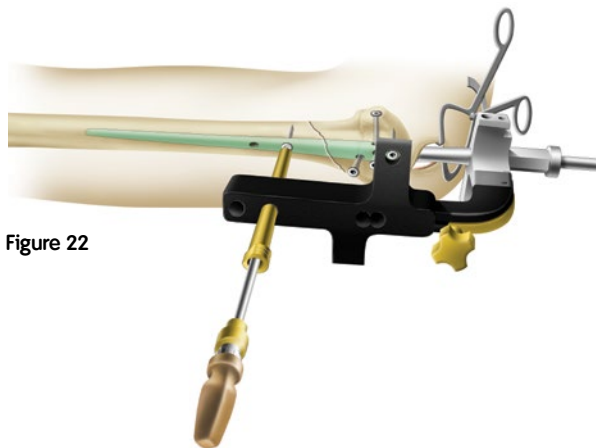

Figure 22
9. Use the Straight Ratcheting Driver to manually tighten the screw (Figure 22).